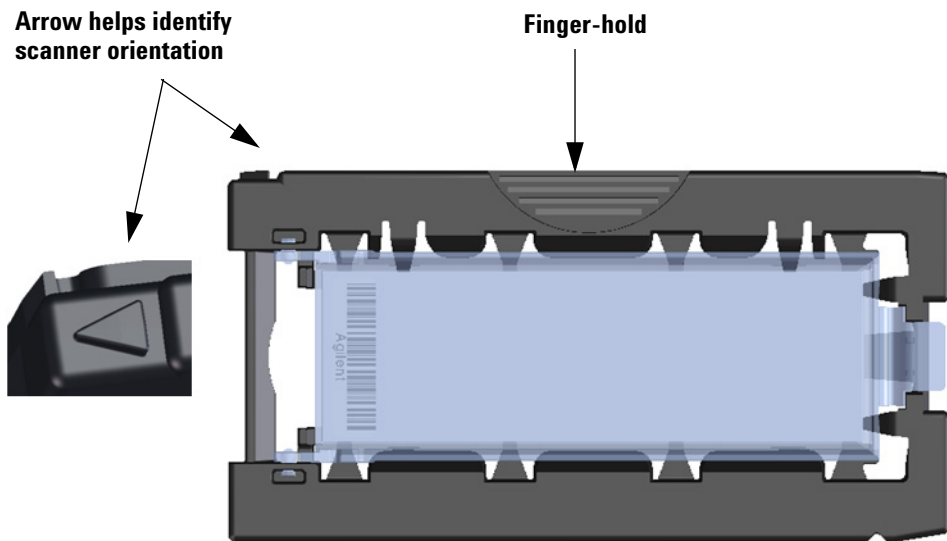

Figure 42 Slide holder helps you to insert slides correctly
- 2 Pick up the slide holder using the finger-hold. The arrow on top of the slide holder points to the left when you pick up the slide holder correctly. See Figure 42.